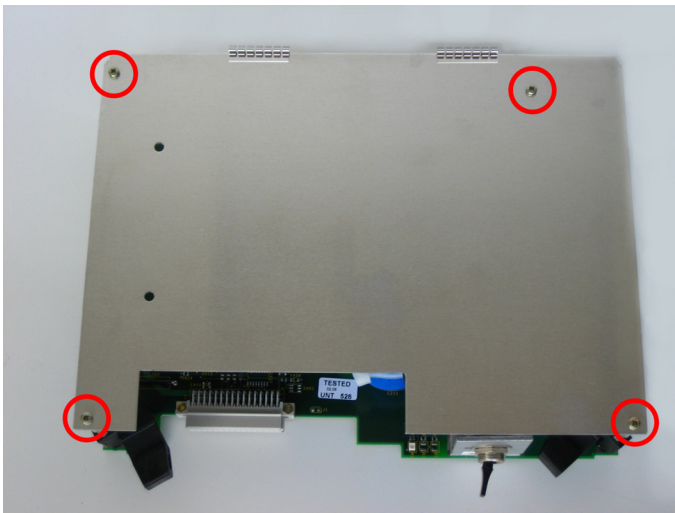

Figure 2-8 Fastening screws of the shielding cover
- Remove the shielding cover by loosening these four screws (see Figure 2-8).